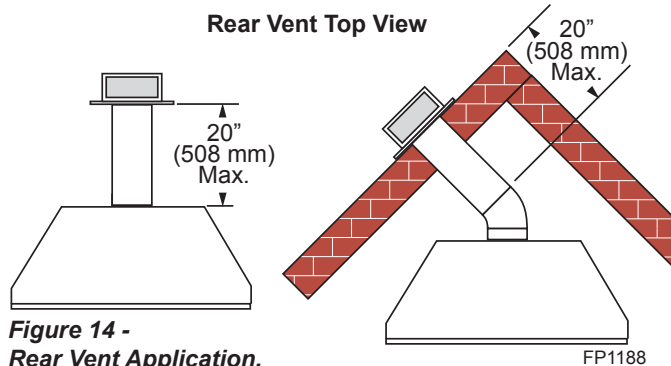

Figure 14 -
- The maximum horizontal distance between the rear of the appliance and the termination is 20" (508 mm). *Figure 14.*